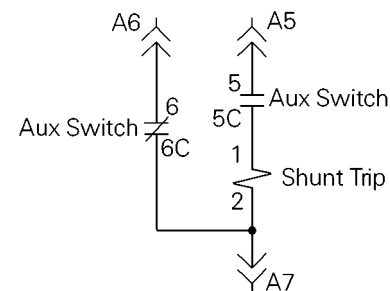
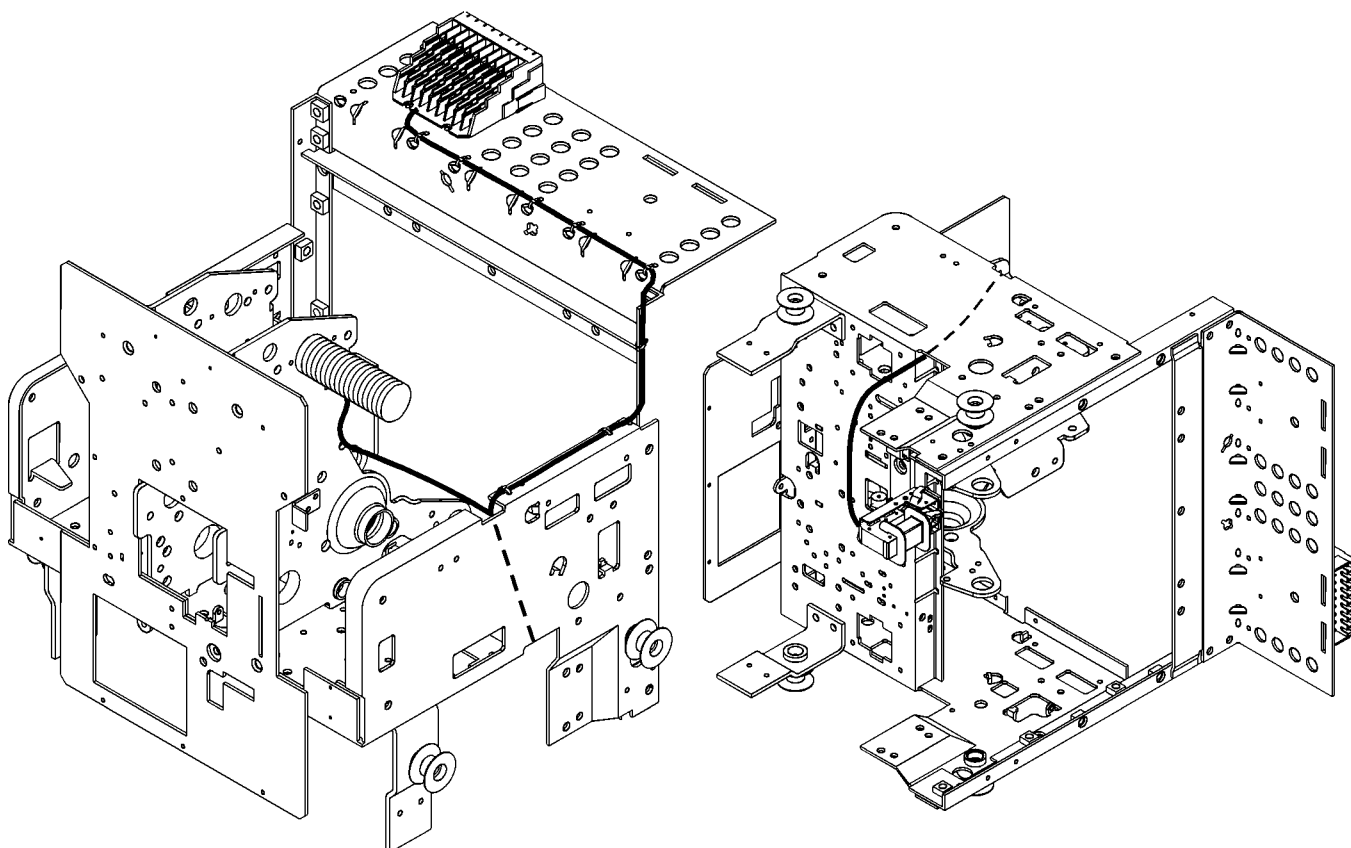

Figure 2. Shunt Trip connections to the Auxiliary Switch and secondary disconnect.
Figure 6. Path for routing wires from the Shunt Trip to the secondary disconnect and auxiliary switch.
The Shunt Trip causes the circuit breaker to trip when its coil is energized. An “A” auxiliary switch, which is closed when the breaker is closed, is in series with the Shunt Trip coil, as illustrated in Figure 2. The external tripping source is connected to positions A5 and A7 on the secondary disconnect.
8. Route the wires from the Shunt Trip as shown in Figure 2 and Figure 6. Where the wires emerge from the underside of the breaker, run one to the Auxiliary Switch and connect it to terminal 5C. Run the other wire to the Auxiliary Switch terminal 6C. Cut all wires to the appropriate length and crimp on the terminals provided (the right-angle flag to the Auxiliary Switch, the spade terminal to the secondary disconnect). Figure 7 shows the secondary disconnect numbering scheme, as seen from the front of the breaker, with the Shunt Trip terminal in bold.